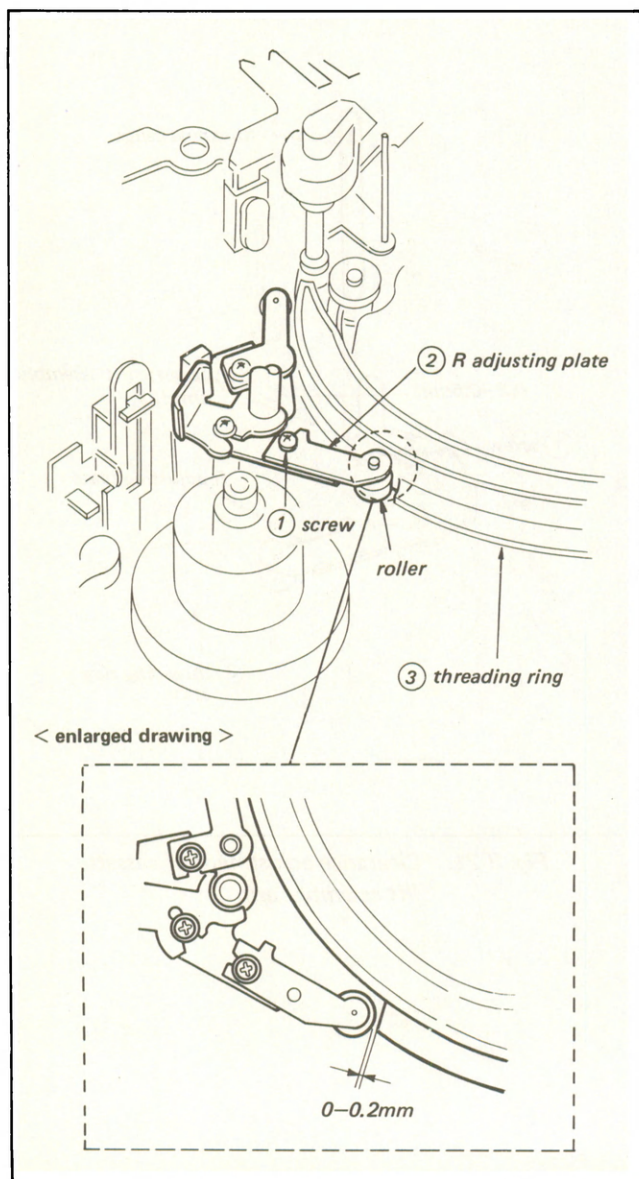

Fig. 3-22. Clearance adjustment of ring arm
3. Loosen screw ① shown in Fig. 3-22 and adjust R adjusting plate assembly ② so that the clearance between the roller of R adjusting plate assembly ② and threading ring assembly ③ satisfies the specification (0 to 0.2 mm). Repeat the threading and unthreading operations several times, confirm that the roller of R adjusting plate assembly ② drops into the bottom of the cam of the threading ring, and tighten screw ① after the confirmation.